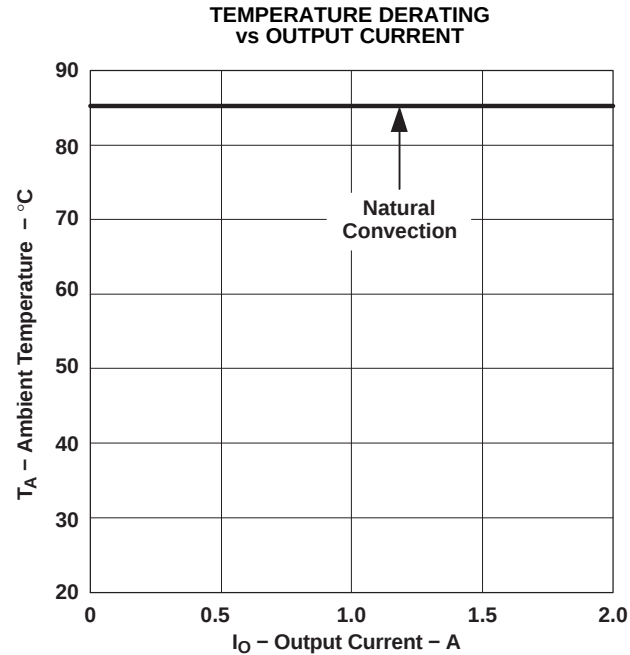

Figure 8.
- (4) The temperature derating curves represent operating conditions at which internal components are at or below manufacturer's maximum rated operating temperature. Derating limits apply to modules soldered directly to a 100-mm $\times$ 100-mm, double-sided PCB with 2 oz. copper. For surface mount packages, multiple vias (plated through holes) are required to add thermal paths around the power pins. Please refer to the mechanical specification for more information. Applies to Figure 8.